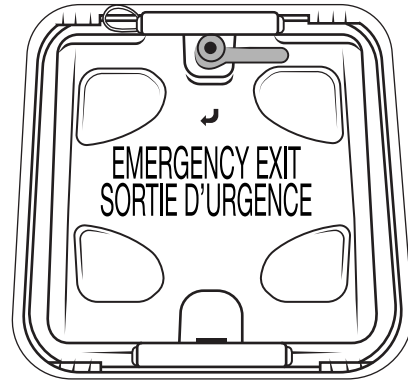

Figure 13 - Emergency roof hatch
1. Turn the red lever clockwise (**Figure 13**).